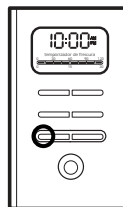

Figure 9
3. To activate the delay brew function and program your coffee maker to brew coffee at a later time, press the delay brew “Colado Program.” button once. The delay brew “Colado Program.” light will illuminate. The coffee maker is now set to automatically brew coffee at the pre-set time (Figure 9).
Press the delay brew “Colado Program.” button until all lights turn off (Figure 9).